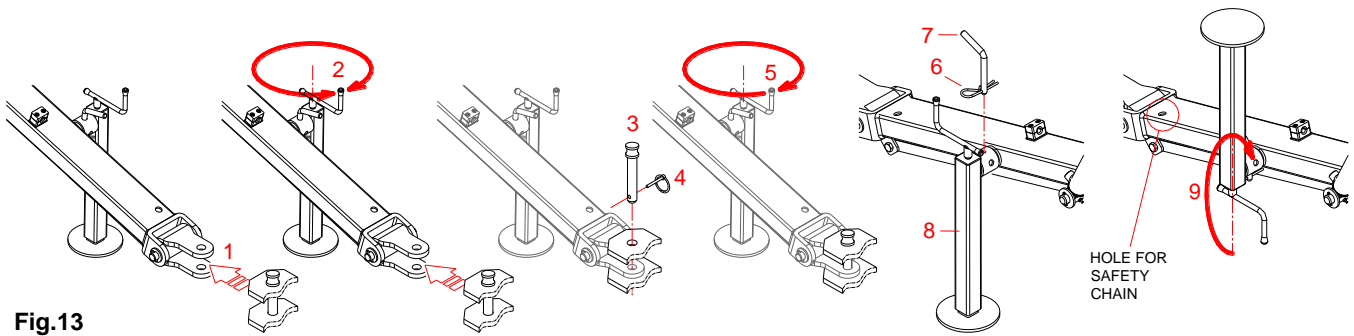

Fig.13
- **Pull-type (fig.13):** the operator must move the tractor slowly to a position where the joints can be easily aligned (1 - fig.13).
To move the jack (fig.13): remove the R pin (6), take out the handle pin (7) and take the jack out of its housing (8). Next, turn the jack counter-clockwise (9) as illustrated and re-insert it in its housing. Insert the handle pin in its new housing and fasten it with its respective R pin.